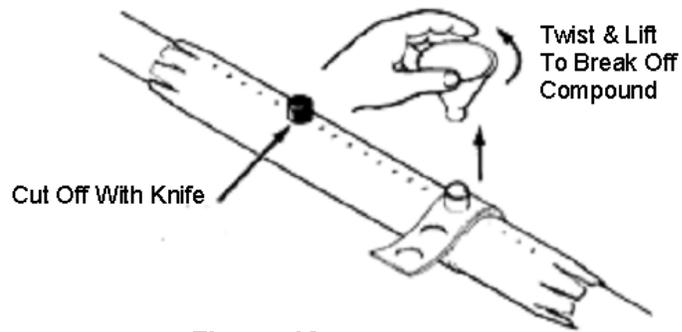

Figure 10
1. Remove funnels by twisting and lifting, breaking off from compound. (Figure 10)
2. Remove mold straps and funnel supports. (Figure 10)
3. Carefully cut off any spout compound protrusions from repair, using a knife. (Figure 10)
3. Alternately squeeze ends of pouch forcing compound rapidly back and forth and strip compound from corners of pouch between fingers. Mix until color is completely uniform – 30 to 40 VIGOROUS SQUEEZES. **DO NOT EXCEED 1 MINUTE.** (Figure 10)